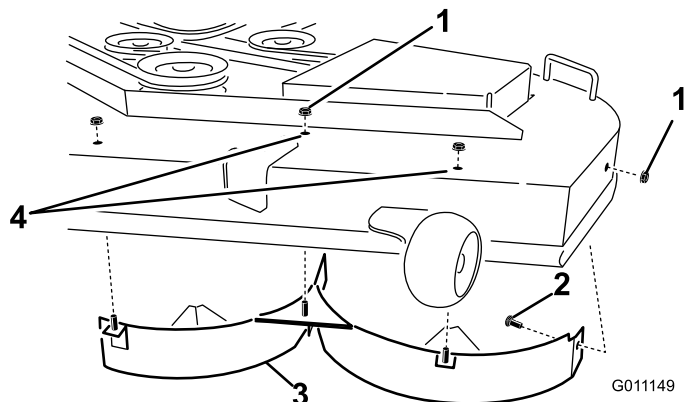

Figure 12
4. Remove the 2 locknuts (5/16 inch) secured to the welded posts of the left baffle on the top of the mower deck at the center and left of center positions (Figure 12).
6. Remove the left baffle from the mower deck as shown in Figure 12.